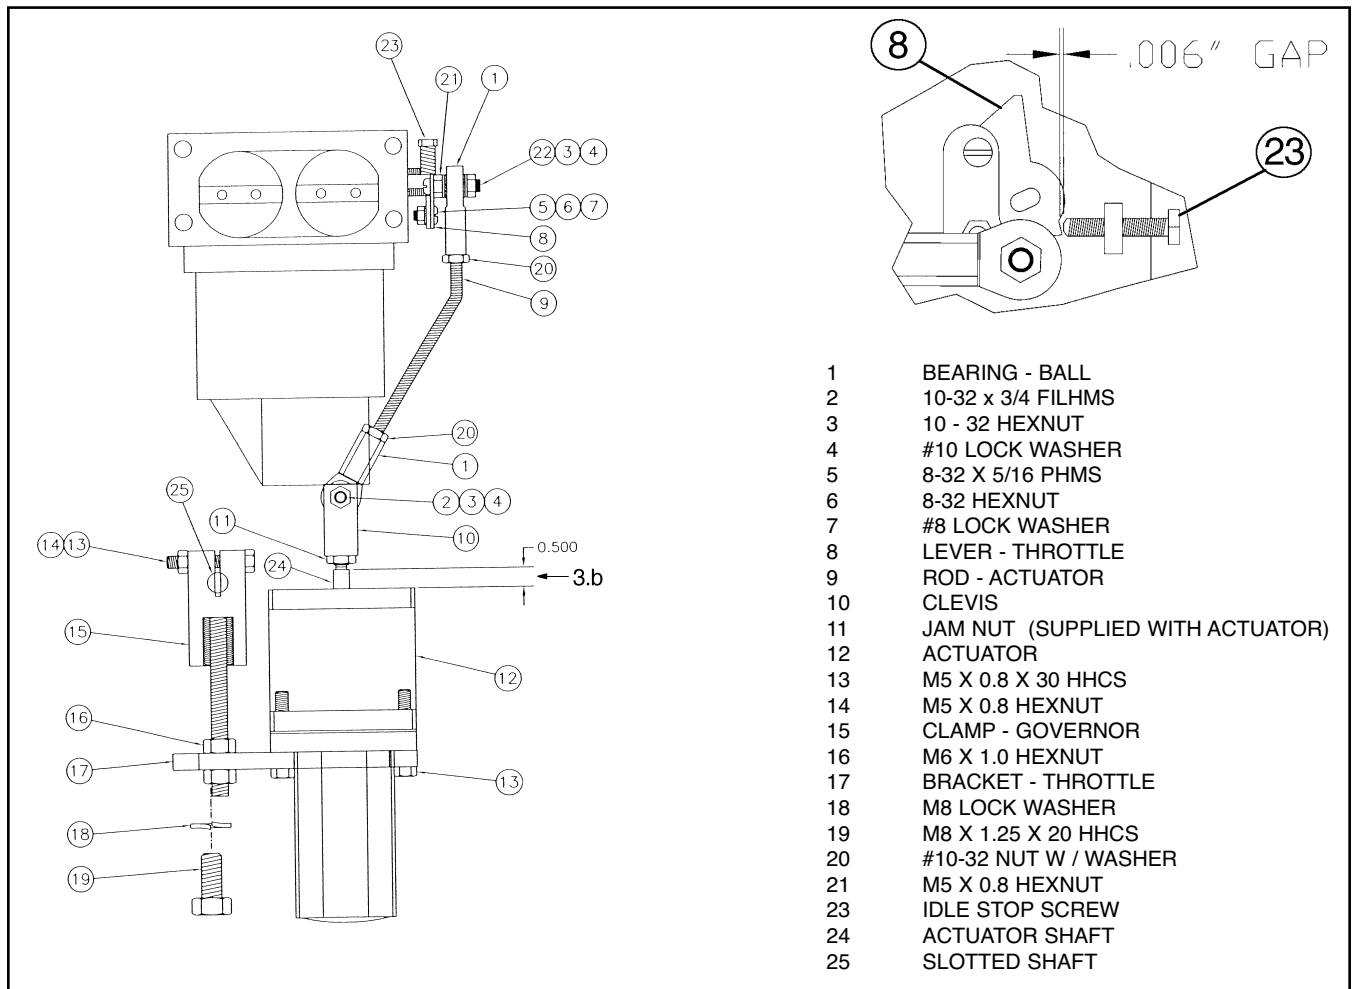

FIGURE 6-11
- a. Holding the butterfly closed by hand, adjust the Idle Stop Screw (Figure 6-11 Item 23) until a 0.006" (0.15mm) feeler gauge is a snug fit between the Idle Stop Screw and the Carburetor Throttle Lever (Figure 6-11 Item 8).
- c. If adjustment is required, loosen the clevis lock nut (Figure 6-11 Item 11).
- d. Holding the clevis (Figure 6-11 Item 10) from turning, rotate the actuator shaft until the correct dimension is obtained.